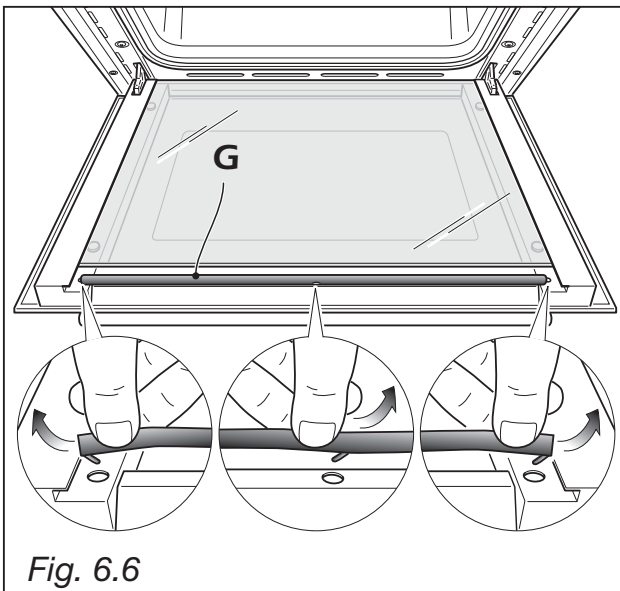

Fig. 6.6
- Remove the seal **G** by unhooking the no. 3 fixing hooks (fig. 6.6).